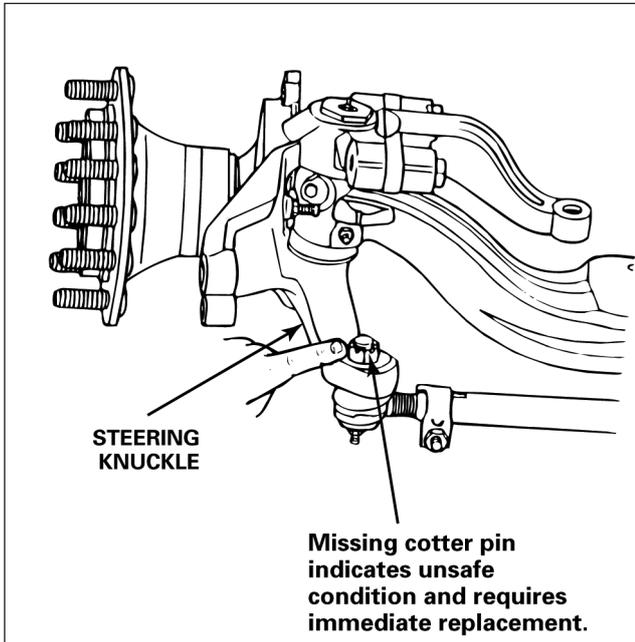

Fig. 1.8
- **If the cotter pin is missing:** Tighten the tie rod end nut to the correct specification. Install a new cotter pin. Always tighten the tie rod end nut to the specified torque when setting the cotter pin. Refer to Section 8. Do not back-off the nut to insert the cotter pin. Fig. 1.8